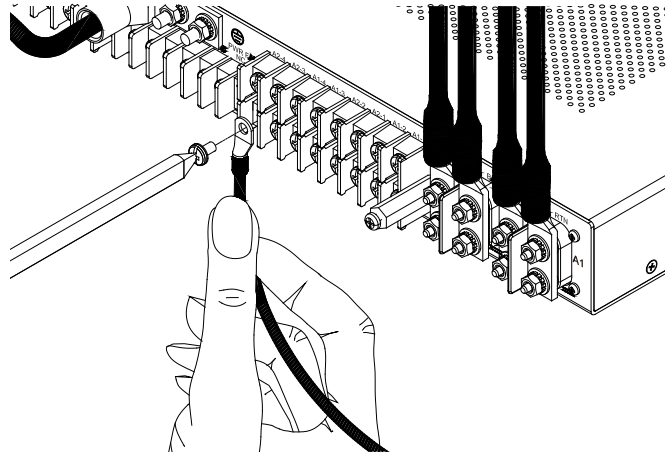

Figure 9 - Output Lug Connections
26. Telect recommends that you put a light coating of anti-oxidant on lugs and output **BATT** and **RTN** terminals before connecting lugs to terminals, as shown in Figure 9. (NEC specifies only one lug and load at each output terminal.)